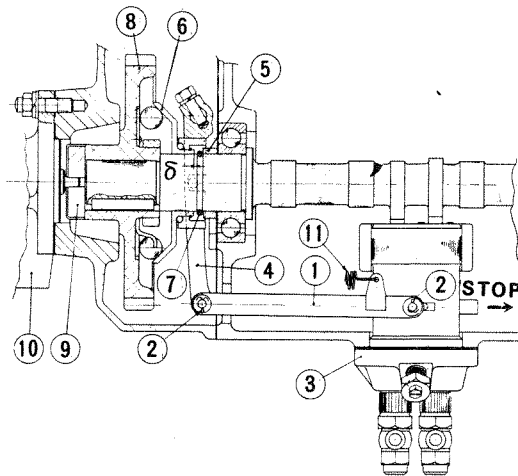

Fig. 25 Structure of governor
(4) Governor system
- (a) The governor is a ball governor which is equipped to the inside of the cam gear on the end of the camshaft and is of the same structure to which you are accustomed to from long ago. (See Fig. 25.)
- (b) The adjustment of the fuel pump rack and the governor link should be performed in the following manner. In Fig. 25, move the fork lever in the direction of the "0" position of the fuel pump rack (in the direction
of the arrow mark) until it would not move anymore. Then select the governor link so that the clearance S (see Fig. 25) between the governor sleeve and the camshaft stopper ring would be 0.020 to 0.039 in. (0.5 to 1 mm.)